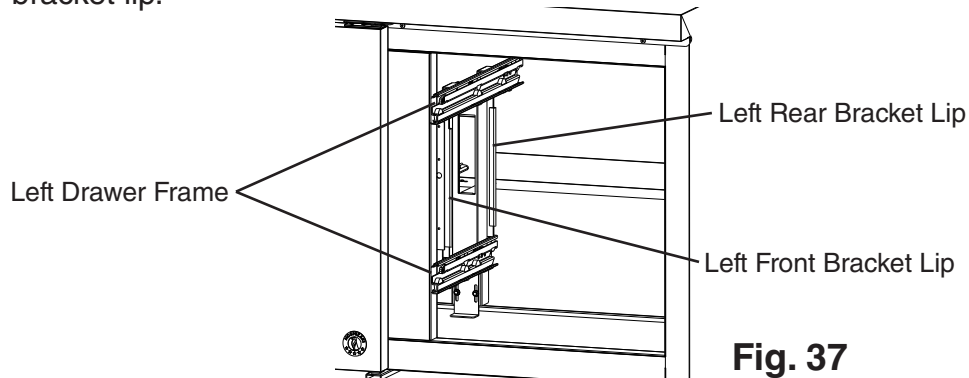

**Fig. 37**
- 22) Place the left drawer frame in the appliance and align under the left rear bracket and tighten, then align under the left front bracket and tighten. See Fig. 37.